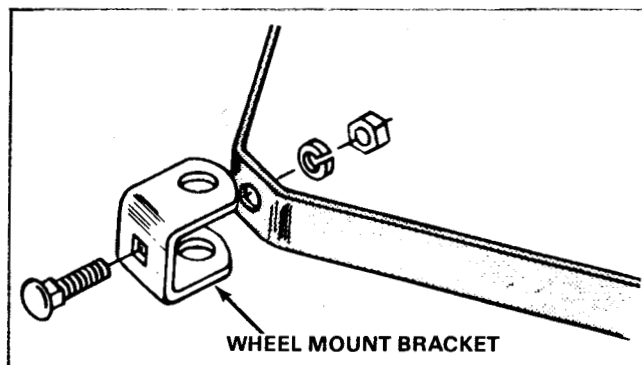

Figure 138
- See Figure 138. Assemble the wheel mount bracket to the frame bar and one 5/16" X 3/4" carriage bolt inserted through the square hole and secured with one 5/16" lock washer, and one 5/16" hex nut - on the inside of the frame bar. Tighten securely.